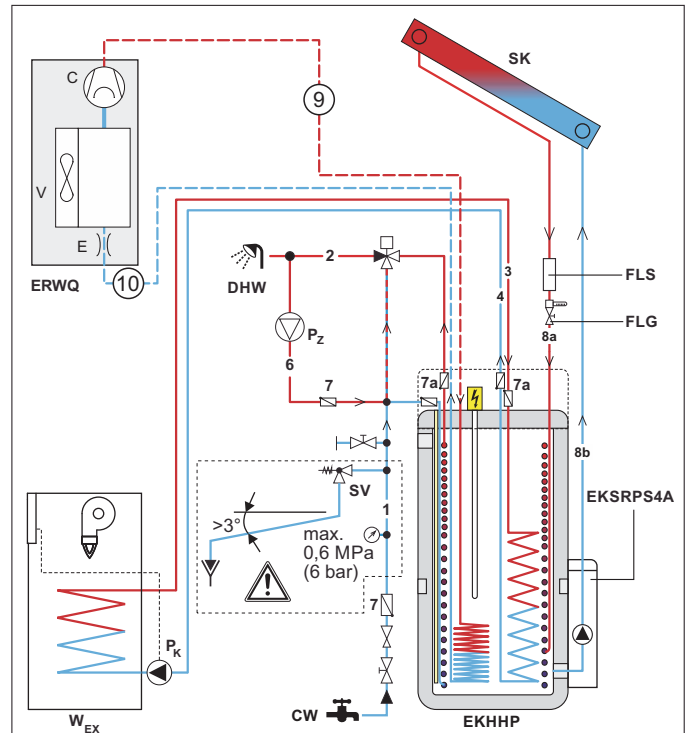

Fig. 3-5 Hydraulic connection - for the legend, see tab. 3-2 (example EKHHP500A*2V3 with $\boxed{p=0}$ solar and optional external heat generator)
- 4 Establish hydraulic connections on the DAIKIN EKHHP (see fig. 3-5).
Tab. 3-2 Legend for fig. 3-5
- Implement the hydraulic system integration according to fig. 3-5.